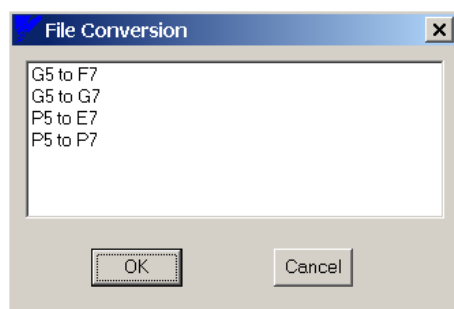

Figure 4.22: Select File Conversion Type
2. Figure 4.22 will appear. Click on P5 to P7 and then click on **OK**.